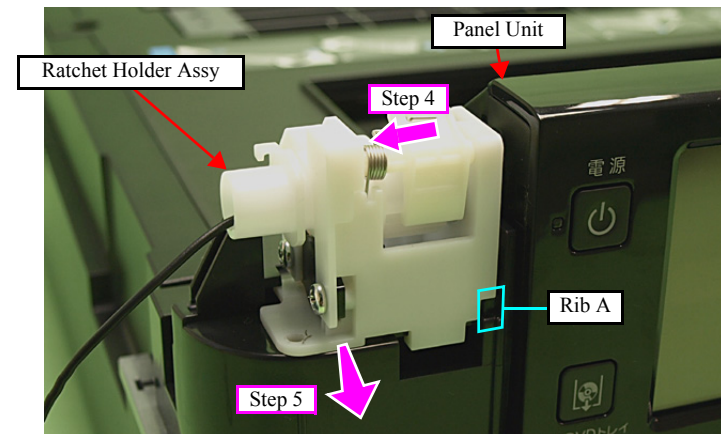

Figure 4-38. Removing the Ratchet Holder Assy (2)
4. Slide the Ratchet Holder Assy to the left, and release the rib A. (See Fig. 4-38.)
- Insert the rib A of the Ratchet Holder Assy to the position shown in Fig. 4-38.